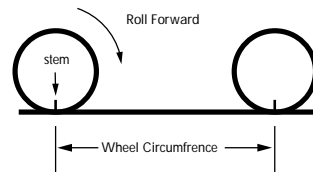

FIGURE 12
3. Roll the wheel one complete revolution until the valve stem is again at the 6:00 position. Read the tape directly under the valve and note the distance in millimeters. (To convert inches to millimeters, multiply inches by 25.4). Use this number to replace the default (default values are 2073 for wheel one, and 2134 for wheel two) when programming your computer. (See figure 12).